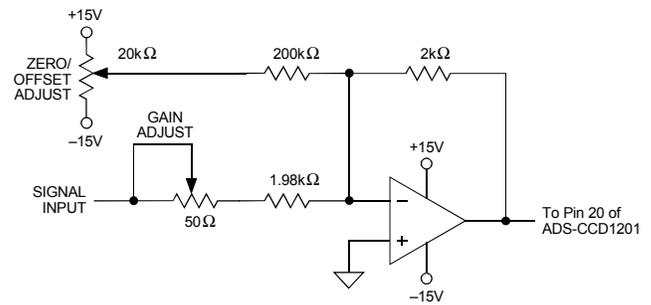

Figure 2. ADS-CCD1201 Calibration Circuit
Bypass all power supplies, as well as the REFERENCE OUTPUT (pin 21), to ground with 4.7µF tantalum capacitors in parallel with 0.1µF ceramic capacitors. Locate the bypass capacitors as close to the unit as possible. If the user-installed offset and gain adjusting circuit shown in Figure 2 is used, also locate it as close to the ADS-CCD1201 as possible.
2. ADS-CCD1201 achieves its specified accuracies without external calibration. If required, the device's small initial offset and gain errors can be reduced to zero using the input circuit of Figure 2. When using this circuit, or any similar offset and gain calibration hardware, make adjustments following warmup. To avoid interaction, always adjust offset before gain.
CALIBRATION PROCEDURE (Refer to Figures 2 and 3)
Any offset and/or gain calibration procedures should not be implemented until devices are fully warmed up. To avoid interaction, offset must be adjusted before gain. The ranges of adjustment for the circuit of Figure 2 are guaranteed to compensate for the ADS-CCD1201's initial accuracy errors and may not be able to compensate for additional system errors.
All fixed resistors in Figure 2 should be metal-film types, and multi-turn potentiometers should have TCR's of 100ppm/°C or less to minimize drift with temperature. In many applications, the CCD will require an offset-adjust (black balance) circuit near its output and also a gain stage, presumably with adjust capabilities, to match the output voltage of the CCD to the input range of the A/D. If one is performing a "system I/O calibration" (from light in to digital out), these circuits can be used to compensate for the relatively small initial offset and gain errors of the A/D. This would eliminate the need for the circuit shown in Figure 2.